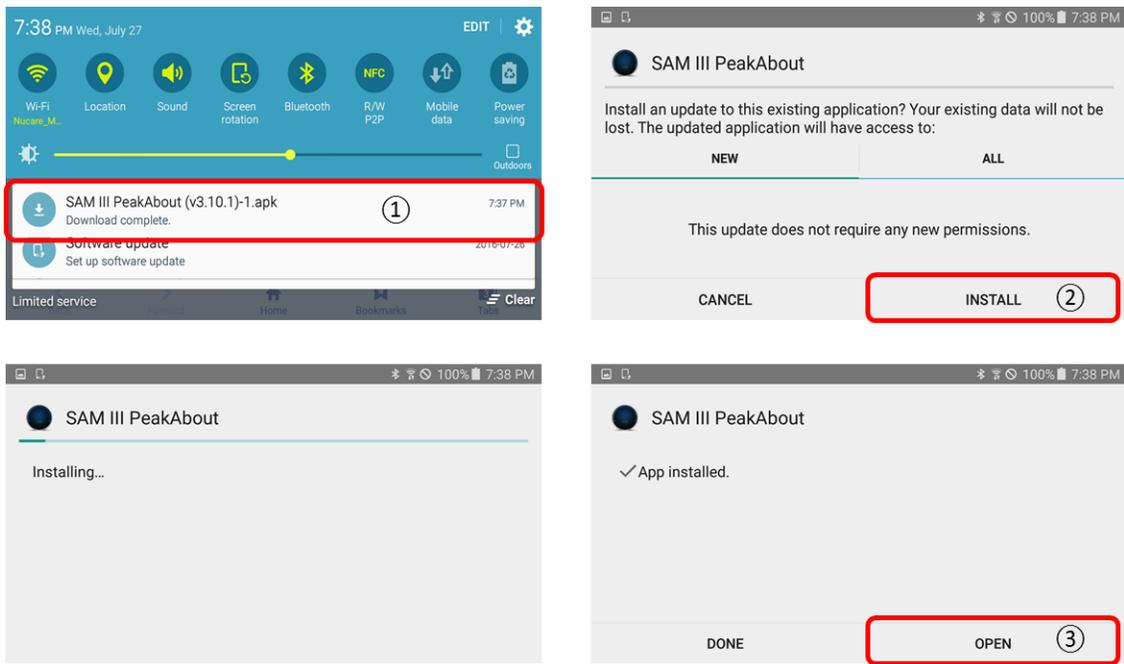

Figure 4.4. SAM III SW upgrade procedure
5. Installation screen is opened as shown in figure 4.4. Follow 4 steps below.